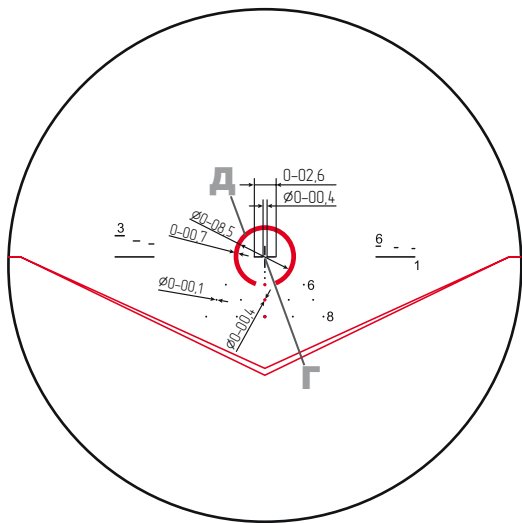

Figure 6
- elevation scale, consisting of a number of points corresponding to the given gauge bullet flight trajectory from 300 to 800 m. For a 100 m range adjustment fire with the cross “Г” (Figure 6) the lower edge of the cross-hair corresponds to the bullet impact point at a distance of 300 m. The points located below correspond to the impact points at distances from 400 to 800 m;